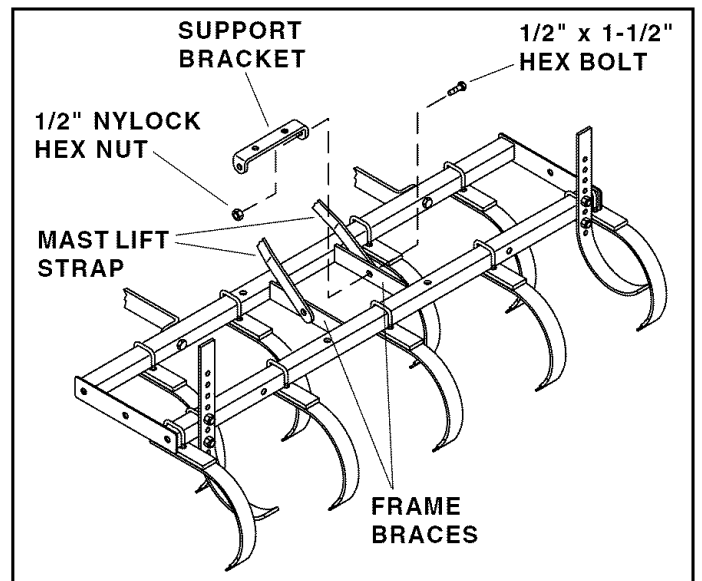

FIGURE 7
- Attach the lower end of each mast lift strap to the outside of the welded frame braces and attach the support bracket to the inside of the frame braces. Use two 1/2" x 1-1/2" hex bolts and two 1/2" Nylock hex nuts. **Do not tighten yet.** See figure 7.